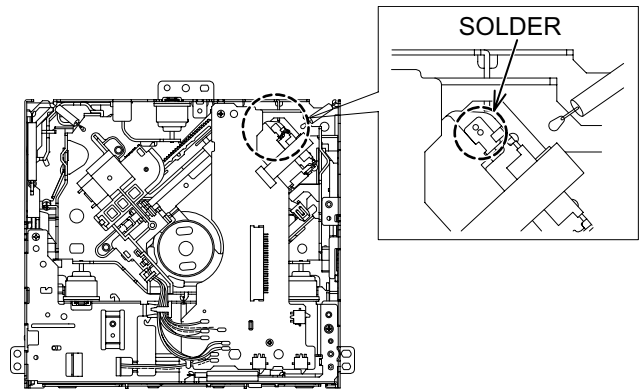

Fig.1
- (1) Solder the short land on the pickup. (See Fig. 1)